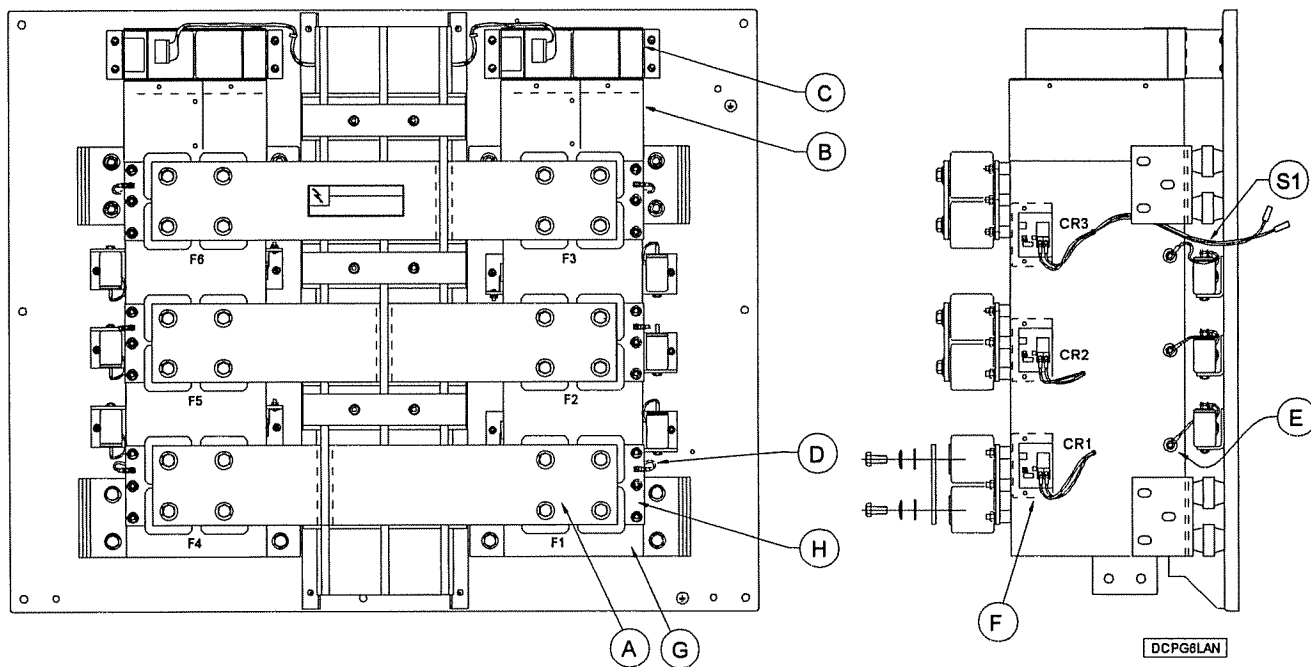

FIGURE 7-9. ARMATURE BRIDGE ASSEMBLY, 2400 AND 2600 AMP
3. Refer to Figure 7-9.
4. Remove bus bar (A) between main (vertical) bus bar and fuses, three locations.
5. To remove and replace any of the fuse groups* F1-F6, remove the fuse group with the fuse bus (H) attached to its far end as an assembly. Then remove and replace the fuse, being certain to follow the torque specified in Table 7-6, Torque Specifications, Armature Bridge Assembly.
6. Remove air duct insulator (B) between fan and thyristor module. (The air duct is Velcroed together on top.)